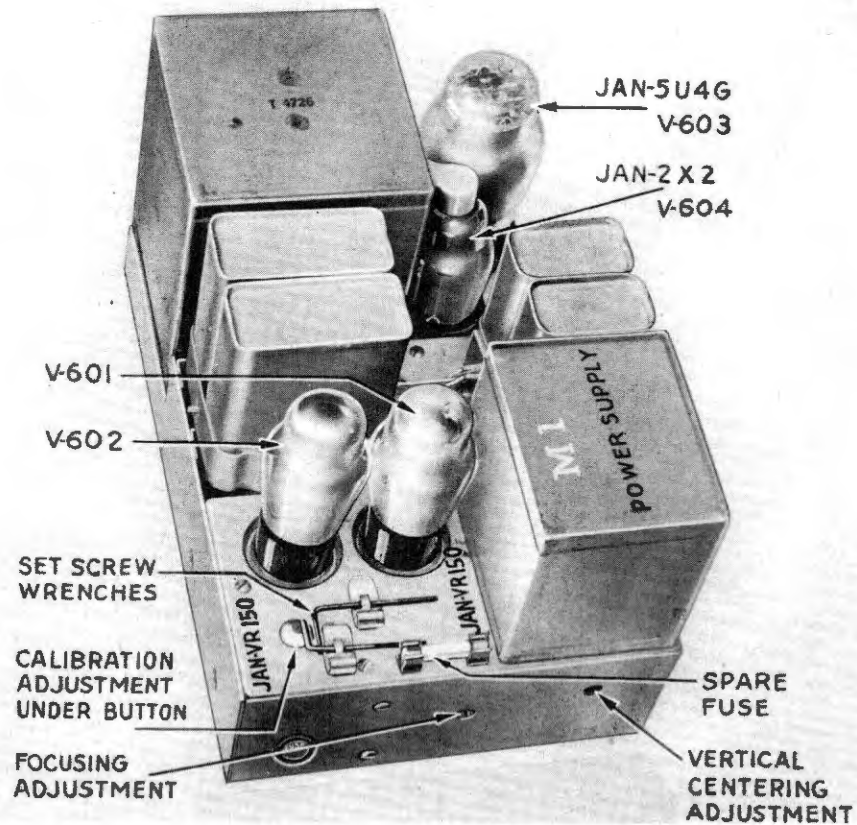

Figure 1-9. Power Supply—Outside View
(6) The power supply (see figure 1-9), containing four tubes, is the source of filament and d-c voltage. It is connected at the factory for 105- to 125-volt operation at 400- to 2600-cycles per second. A tap for 75- to 85-volt operation is provided. Connecting plugs are on the bottom.